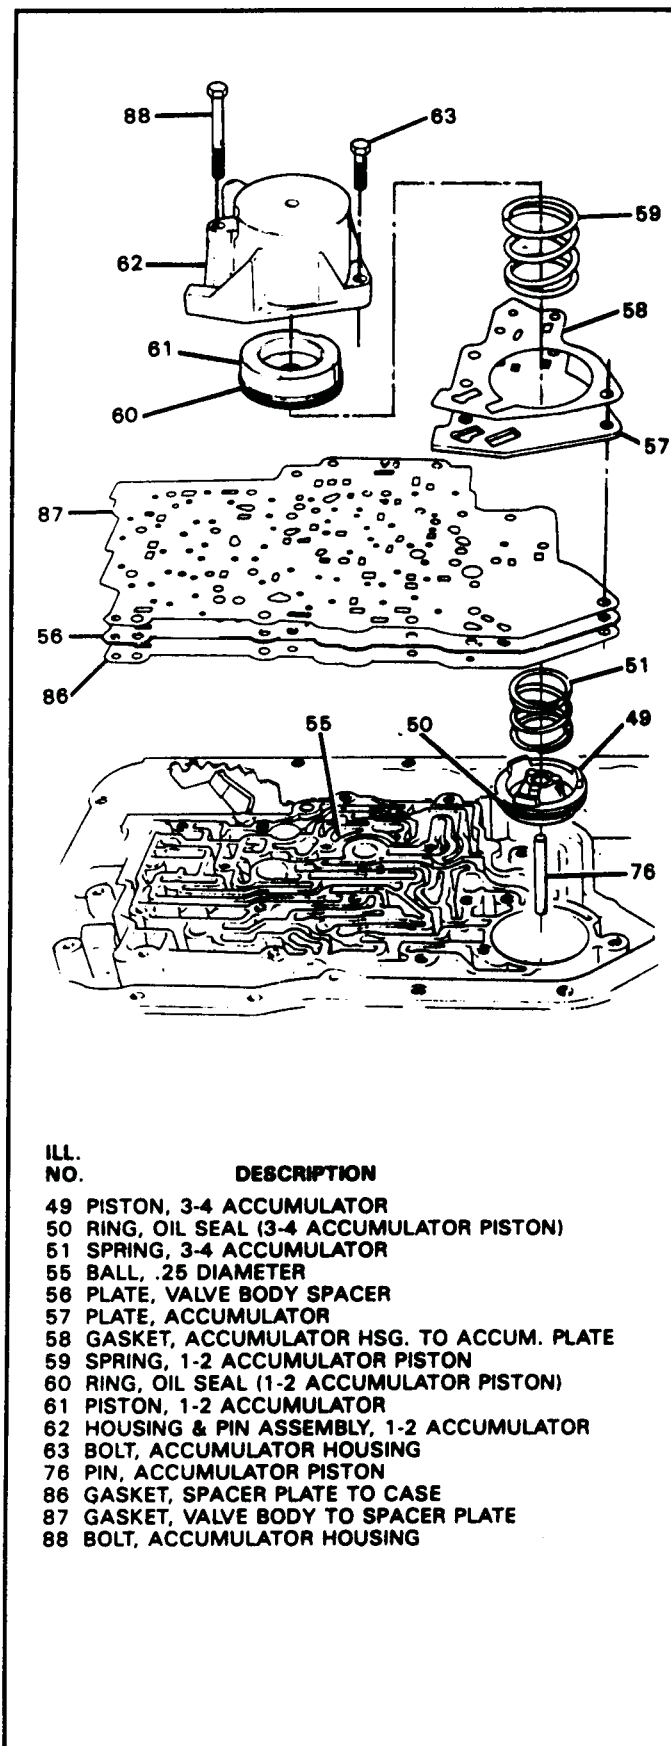

Figure 37
32. Remove the 1-2 accumulator housing assembly and tension plate as shown in Figure 37.
33. Remove 1-2 accumulator piston and spring from the housing as shown in Figure 37.
34. Remove the spacer plate and both valve body gaskets as shown in Figure 37.
35. Remove the 3-4 accumulator piston and spring from the case as shown in Figure 37.
37. Remove and discard the seal ring from the 3-4 accumulator piston (See Figure 37).